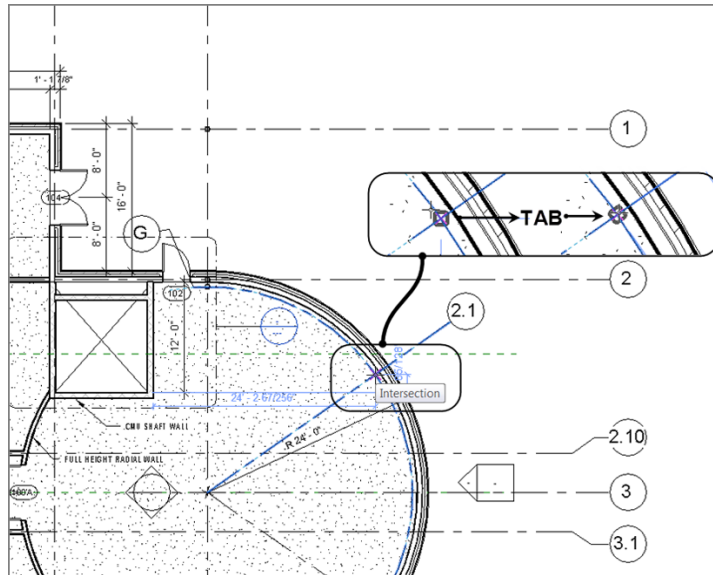

FIGURE 8.27: Placing and rotating a column
4. Press the spacebar on your keyboard, and the column rotates to align with the grid, as shown in Figure 8.27.